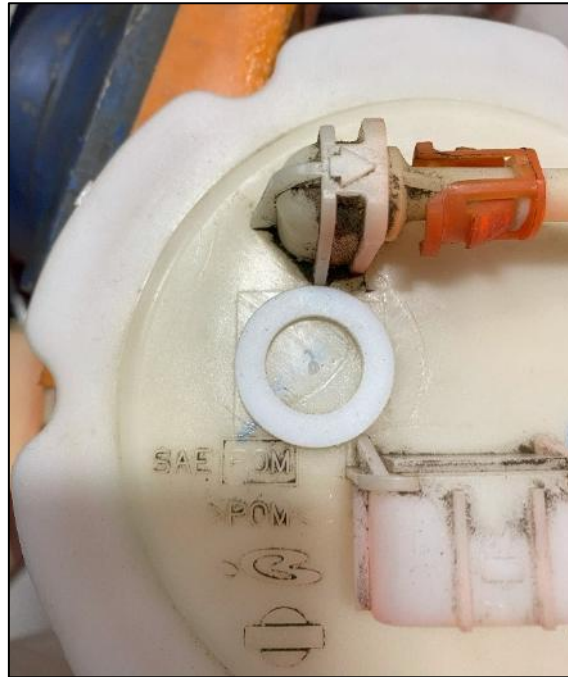

Figure 24
16. Place a PTFE Washer on top of the Basket Assembly as shown. Make sure it has enough room between the Port and Connector. *Figure 24.*